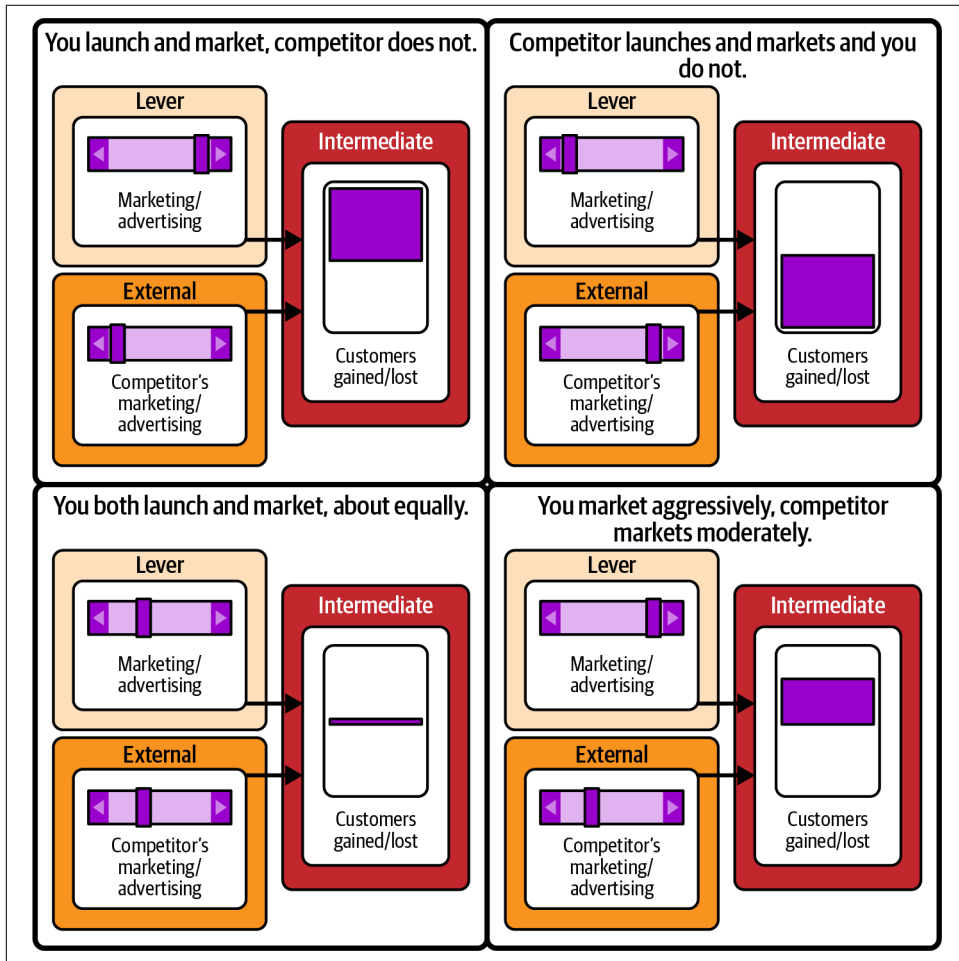

Figure 5-14. Simulation screenshots.
Figure 5-14 shows the kinds of results you're going for here.
8. Create a bar graph to display the number in this column. Style the bar graph in Excel to look like the bar graph in Figure 5-14.
Your results might be similar to those in Figure 5-14.
The very simple simulation in Figure 5-14 suggests something useful: that, regardless of whether your competitor launches an unlimited plan, your company will never be worse off if *you* launch one. Of course, this insight depends on your fake numbers and formulas, but if you move the levers and watch the outcome bars, you'll observe that you gain some intuition you don't get from just the numbers.⁵ There is something counterintuitive going on here that bears repeating: even with “stub” code, you've creating a connection between math and a visualization of that math in a way that is very intuitive and natural for people. You're asking them to think in terms of an action they take (the lever) in some context (the external) and its result. This is like throwing a ball and catching it—something that is a lot easier on human brains than reading math and trying to translate it into something understandable.
You create a brief Simulation Report with this conclusion from your simulation and some screenshots like those in Figure 5-14.